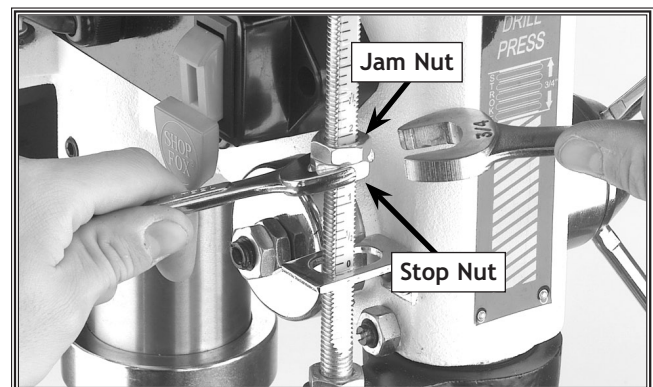

Figure 38. Actual stop depth being measured.
3. Loosen the jam nut on the depth stop rod (see **Figure 38**).
4. Turn the stop nut to the desired depth as indicated by the depth stop scale (see **Figure 38**).